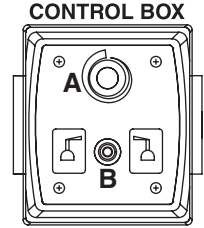

Fig. 4
2. The In-Cab control box is used as follows: (**Fig. 4**)